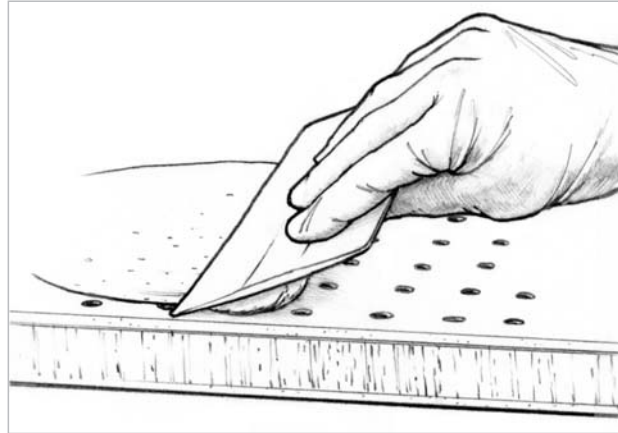

Figure 5-4 Fill any remaining voids and fair the surface with an epoxy/407 mixture.
6. Sand the surface and fill any remaining holes with an epoxy/407 low-density filler mixture, thickened to the consistency of peanut butter (*Figure 5-4*). After the epoxy has cured thoroughly, sand the surface fair and finish it as described in Section 2.